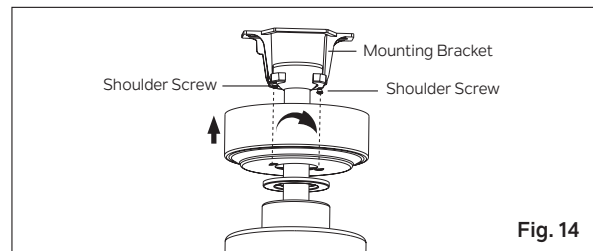

Fig. 14
Step 1. Loosen the two shoulder screws at the bottom of the mounting bracket. (do not remove). (Fig. 14)